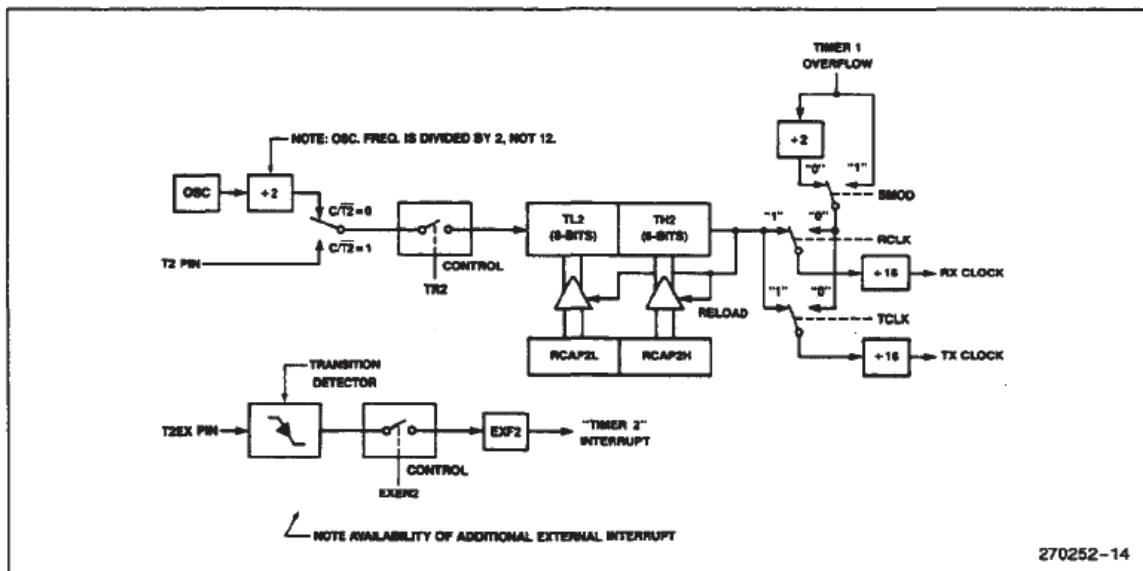

Figure 16. Timer 2 in Baud Rate Generator Mode
11). Note then the baud rates for transmit and receive can be simultaneously different. Setting RCLK and/or TCLK puts Timer 2 into its baud rate generator mode, as shown in Figure 16.
Timer 2 as a baud rate generator is shown in Figure 16. This Figure is valid only if $\text{RCLK} + \text{TCLK} = 1$ in T2CON. Note that a rollover in TH2 does not set TF2, and will not generate an interrupt. Therefore, the Timer 2 interrupt does not have to be disabled when Timer 2 is in the baud rate generator mode. Note too, that if EXEN2 is set, a 1-to-0 transition in T2EX will set EXF2 but will not cause a reload from (RCAP2H, RCAP2L) to (TH2, TL2). Thus when Timer 2 is in use as a baud rate generator, T2EX can be used as an extra external interrupt, if desired.